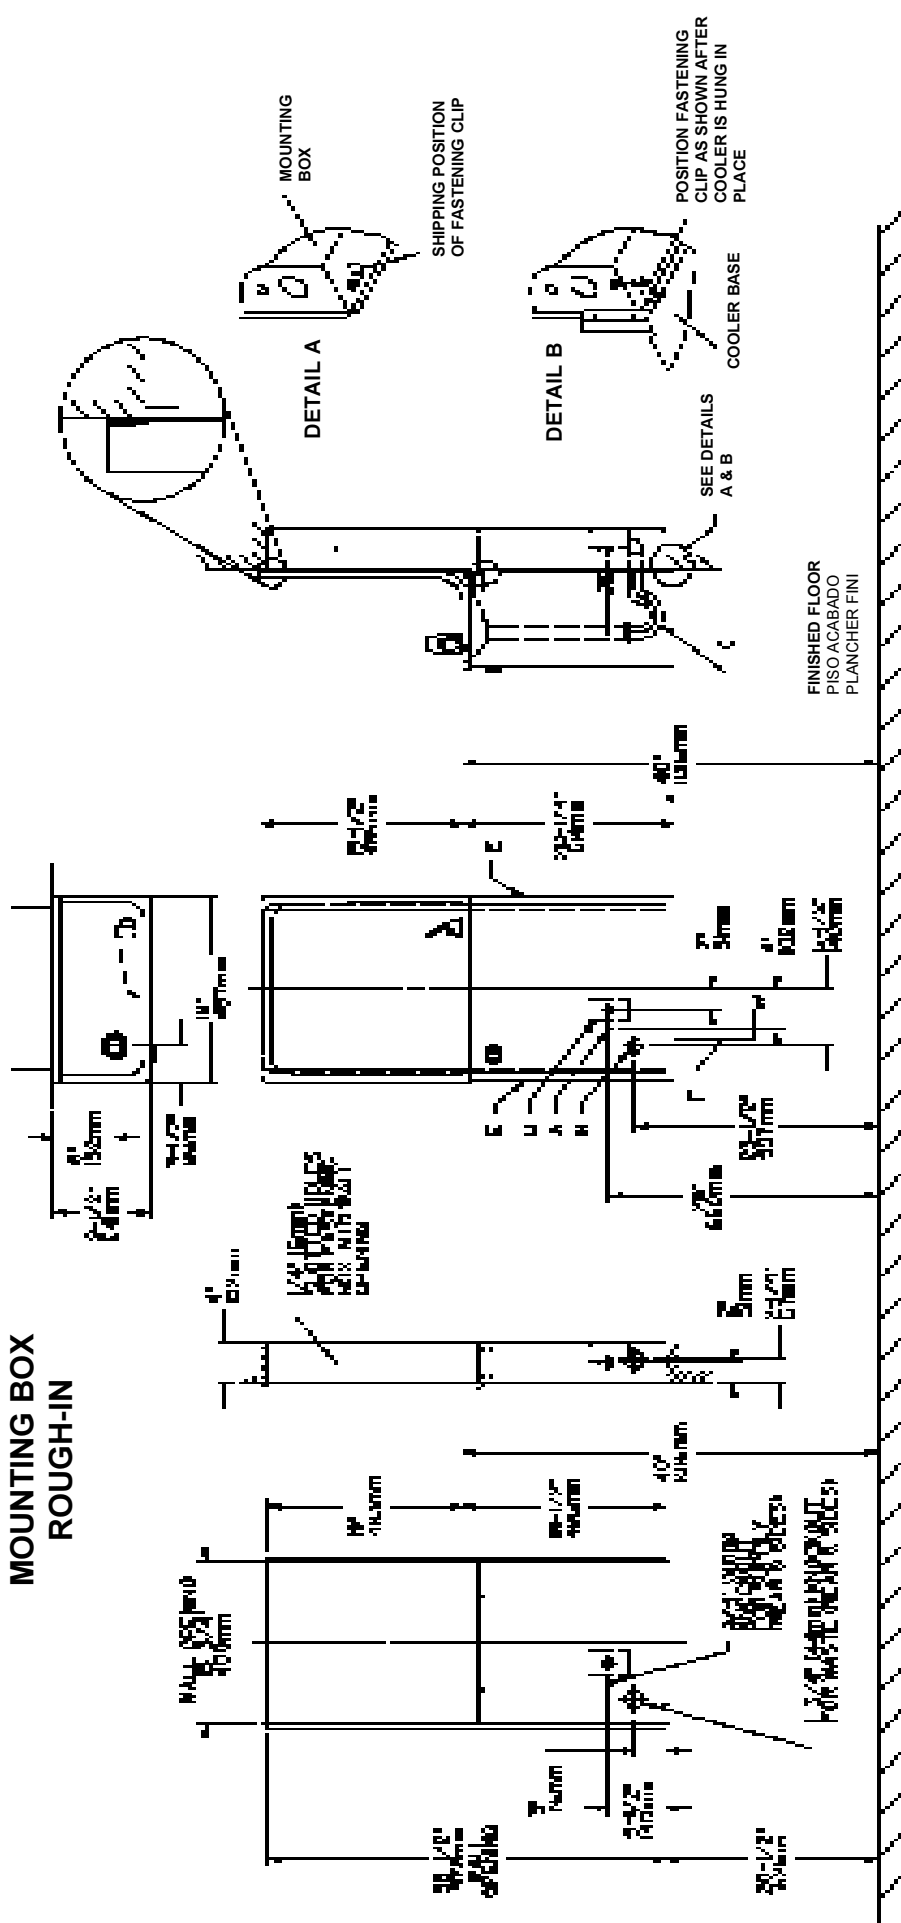

FIG. 2
- 2) Mount the hanger brackets and trap as shown in Figure 2.
- Anchor hanger securely to wall using all six (6) 1/4 in. dia. mounting holes.